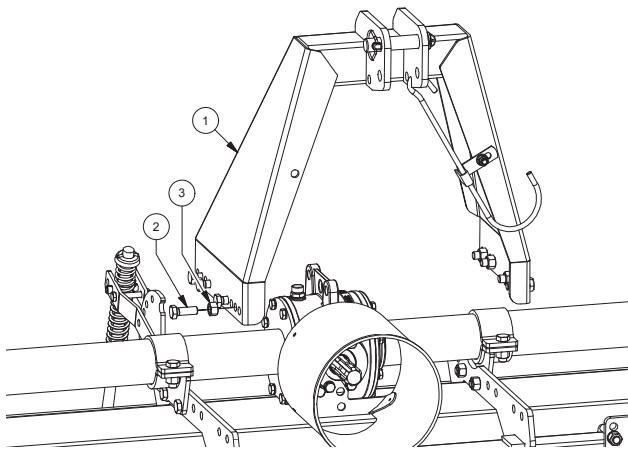

FIG. 11
- Fit the third point (1, Fig. 11), insert it inside between the frame supports; tighten bolts (2) and nuts (3) at the recommended torque (see table “Bolt driving torque (Nm)” on page 51)